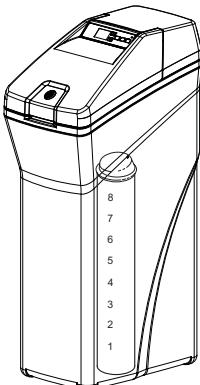

Figure 14
2. Determine level of salt in brine tank using the numbered scale on side of brine well, inside brine tank (see Figure 14).